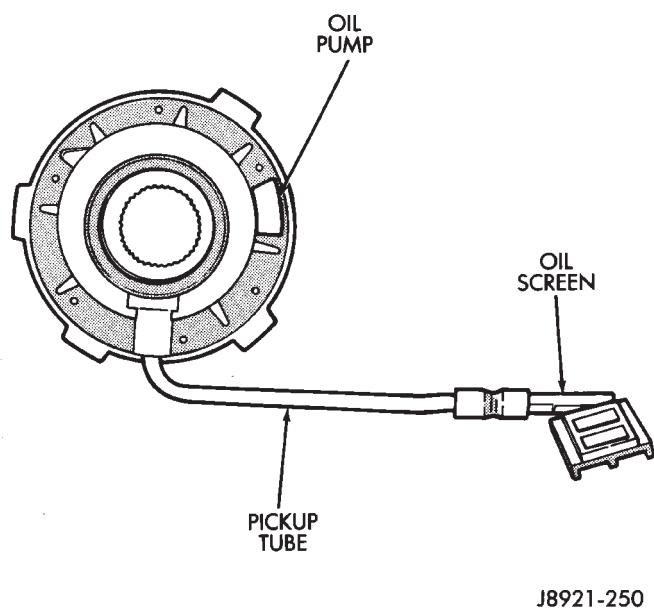

Fig. 6 Oil Pump And Pickup Tube Removal
(12) Slide oil pickup tube screen out of case pocket.
(13) Remove oil pump and pickup tube as assembly (Fig. 6).